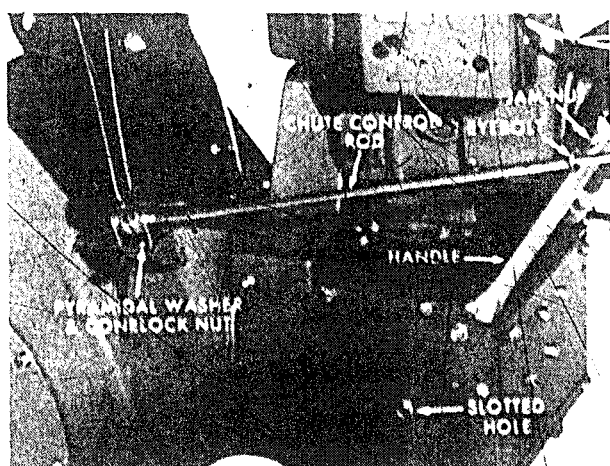

Figure 1
1. Remove the tape holding the control rods to the handles. Insert the handle assembly into the frame as shown in Fig. 1, and secure with two hex flange bolts on each side. Do not tighten fully.